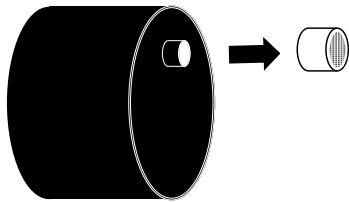

Figure 23: Remove spark arrester
7. Pull the spark arrester screen off the muffler exhaust pipe (see Figure 23).